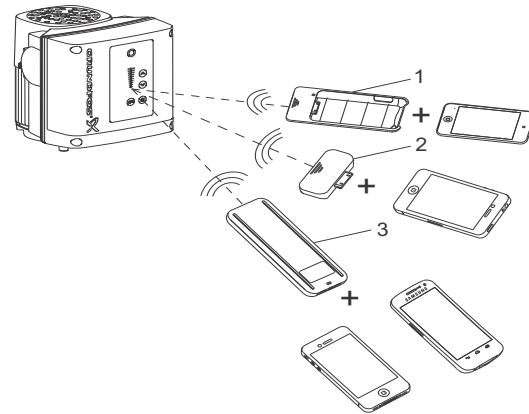

Fig. 32 Grundfos GO Remote communicating with the pump via radio or infrared light
The Grundfos GO Remote offers three different mobile interfaces (MI). See fig. 32.